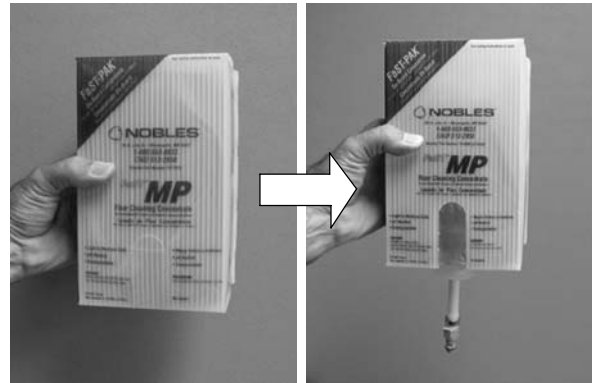

FIG. 10
1. Remove the perforated knock-out from the FaST-PAK carton. Do not remove the bag from the carton. Pull the hose connector through the knock-out and remove the orange cap (Figure 10).